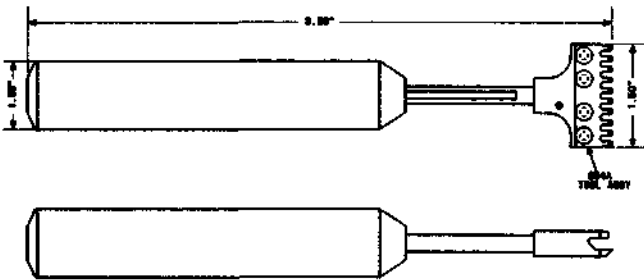

Fig. 16—834B Insertion and Cutoff Tool
2.18 834B: The 834B insertion and cutoff tool (Fig. 16) consists of an impact handle and 834A tool. The 834B tool is used to seat and cut ten, 22-gauge polyvinyl chloride conductors mounted in an index strip on the 93-type connecting blocks with one impact.